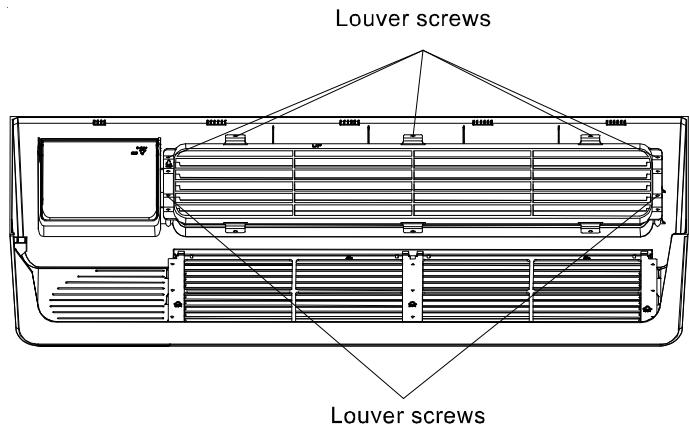

Figure 12
2. Remove louver screws holding louver insert in place from the back side of the front panel. See Figure 12.